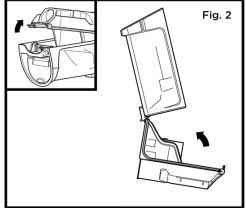

Fig. 2
2. Press the Dust Cup Empty button to open the dust cup lid. (Fig.2).